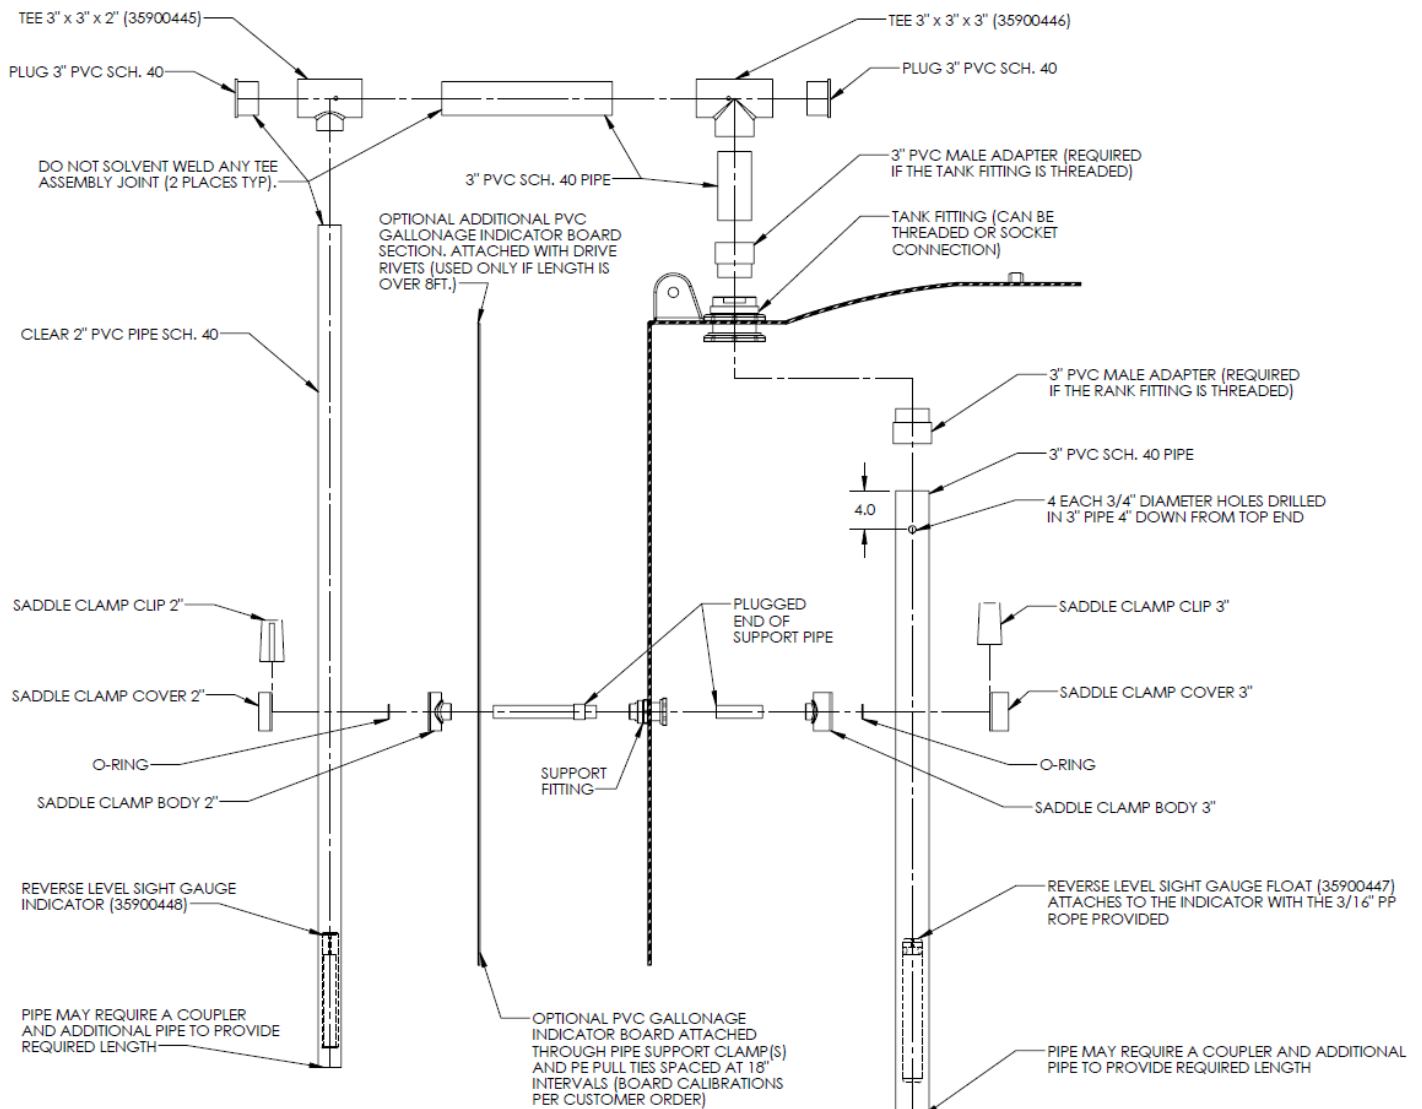

Figure 7.8
7.8.2 Assemble the piping loosely using Figure 7.8, the guidelines detailed below, and the customer approved tank drawing to ensure all parts are present and cut to length. As soon as all parts have been checked, assemble the parts with solvent weld cement and/or threaded connections as shown in Figure 7.8. NOTE - Do not use solvent weld cement on the outside joints indicated in Figure 7.8. SII recommends periodic inspection of the rollers in the tee assemblies and the rope to ensure proper operation of the gauge. If it is a requirement to seal these joints, a silicone based caulking should be sufficient.
7.8.3 Assemble and install the support structures as shown in Figure 7.8 (without the saddle clamp cover caps and clips). Make sure the support clamp orientation is correct (with the small width of the wedge toward the top of the tank) and that the plugged support pipes are installed with the plugged end as close to the support fitting as possible. Make sure that the indicator board has been installed over the outer pipe supports as shown in Figure 7.8. Assemble and install piping as per the customer approved drawing. As piping is being installed on the tank, lock it in place with the saddle
clamp cover caps and clips provided (make sure that the sealing o-ring is in the proper position as the pipe is positioned into the saddle support body). Seal all threaded pipe connections with Teflon pipe sealant and connect solvent weld sockets with the correct solvent cement (except the joints as noted in Figure 7.8).